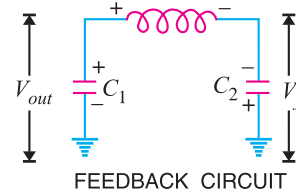

Fig. 14.11
Circuit operation. When the circuit is turned on, the capacitors C_1 and C_2 are charged. The capacitors discharge through L , setting up oscillations of frequency determined by exp.** (i). The output voltage of the amplifier appears across C_1 and feedback voltage is developed across C_2 . The voltage across it is 180° out of phase with the voltage developed across C_1 (V_{out}) as shown in Fig. 14.11. It is easy to see that voltage feedback (voltage across C_2) to the transistor provides positive feedback. A phase shift of 180° is produced by the transistor and a further phase shift of 180° is produced by $C_1 - C_2$ voltage divider. In this way, feedback is properly phased to produce continuous undamped oscillation.
** Referring to Fig. 14.11, it is clear that C_1 and C_2 are in series. Therefore, total capacitance C_T is given by;
*** Referring to Fig. 14.11, the circulating current for the two capacitors is the same. Further, capacitive reactance is inversely proportional to capacitance.